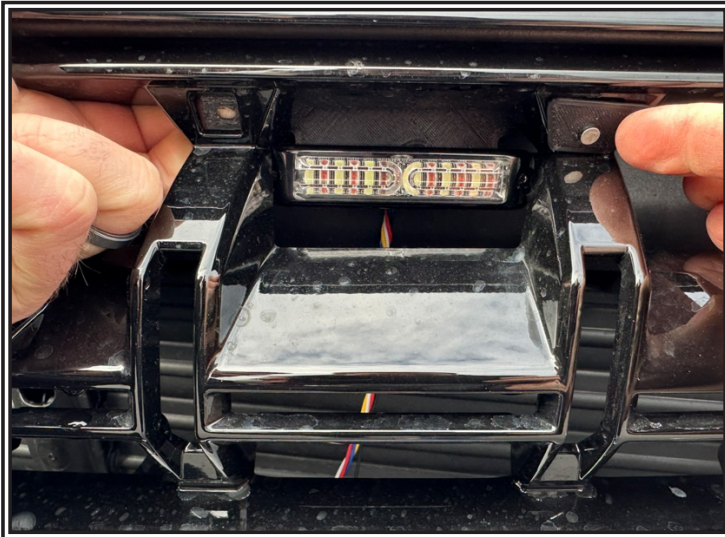
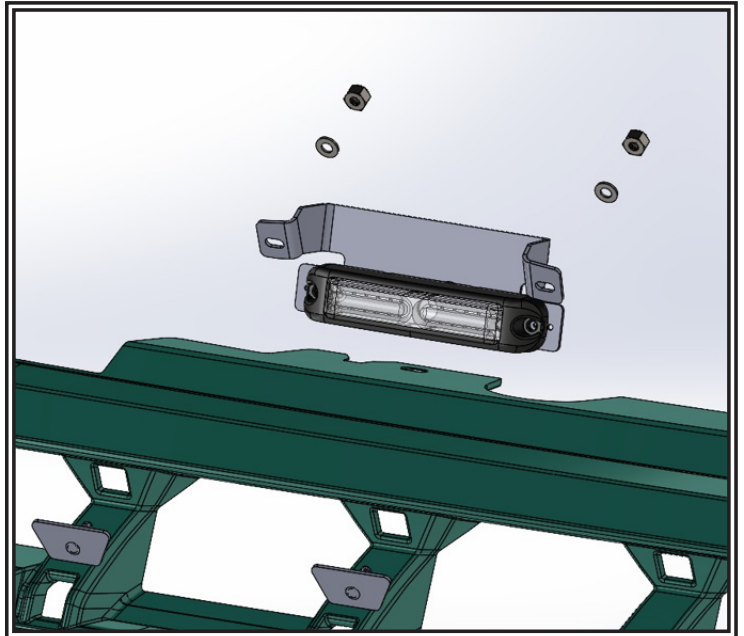

Figure 2
Figure 3
2. Position the upper grille bracket (220-1713-00) behind the grille in the desired location as shown in Figure 2.
3. Place a stud mount bracket (220-1713-10) through the square hole in the grille and through the hole upper grille bracket as shown in Figure 2. Make sure that the long edge is on top. Secure using the supplied hardware on the stud behind the upper grille bracket and tighten to 15 in.-lbs. See Figure 3.